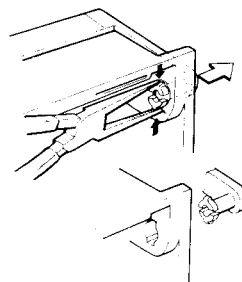

Figure 3.
2. Remove the handle with a pliers as illustrated in Figure 3.